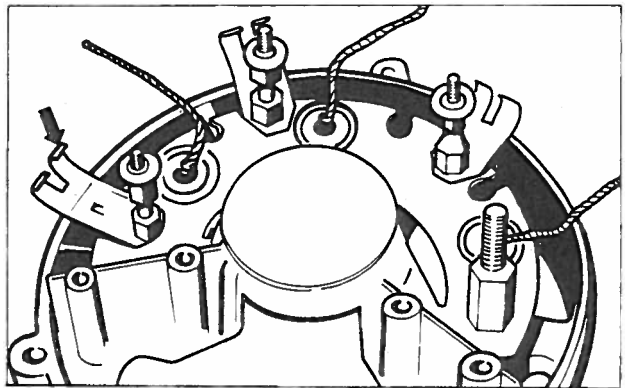

Fig. 63 Fitting negative diode heat sinks and clamps
1. Fit the negative diodes heat sink and clamps, ensuring the longer clamp is fitted on the left hand side of the housing. Screw in the double ended bolts, shorter thread facing outwards. Fit the insulating washers and bushings correctly Fig. 63.